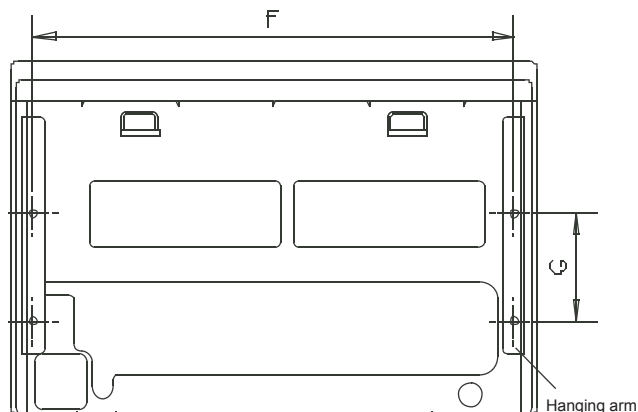

Fig.5-10
- Remove the side board and the grille.(Refer to Fig. 5-10)